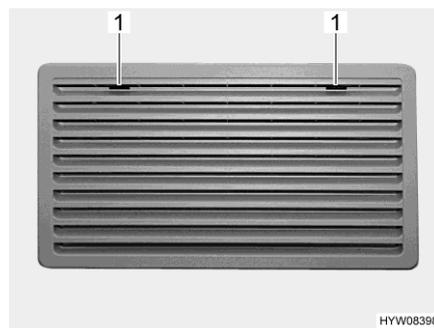
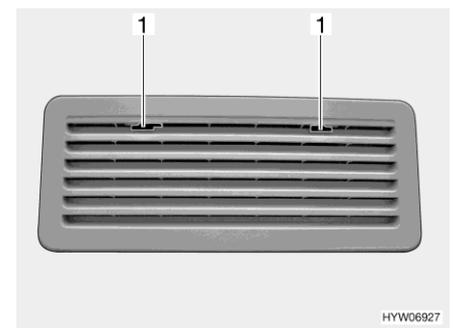

Fig. 161 Refrigerator ventilation grill (Thetford large)
Fig. 162 Refrigerator ventilation grill (Thetford small)
- Move the locking device (Fig. 161,1 or Fig. 162,1) to the middle.